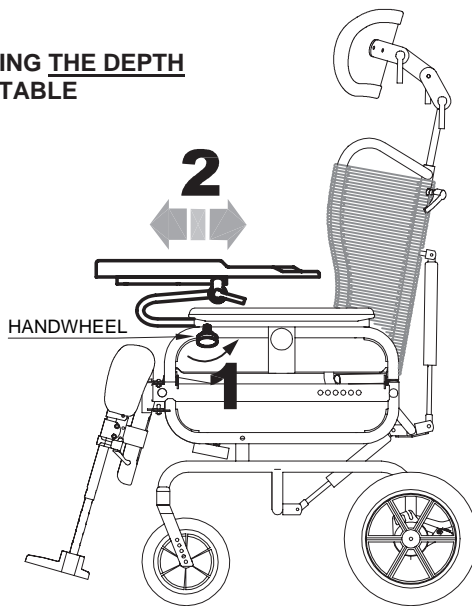

fig.1
- b) Tighten well the clamping lever and the handwheels of the table (fig. 1 and 2)